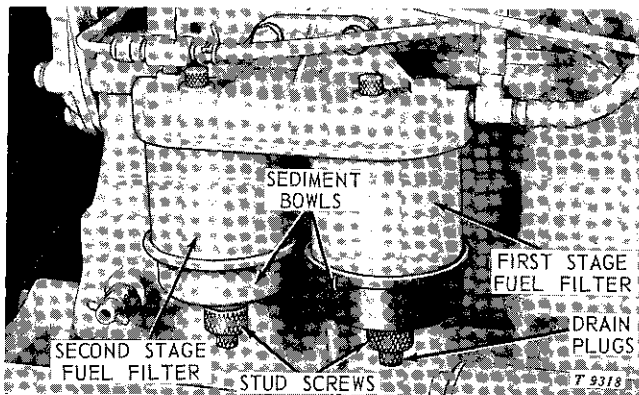

Fig. 40-10-16—Bleeding Diesel Fuel System (42001-Up)
Tractors (42001-up). Check the first-stage filter element (rear) for dirt or water soaking. (Fig. 40-10-16). Back off large stud screw under filter sediment bowl and remove screw and bowl. Remove filter element. Replace element and gaskets if element is dirty or water soaked. Place gaskets on shoulders of element and slip element under filter head. Reinstall screw and bowl under filter element. Be sure gaskets are not crimped, then tighten stud screw until snug. Do not replace second-stage filter element except in the case of major engine overhaul, unless first stage filter is extremely dirty or water-soaked. Bleed fuel system (see next page).
2. Loosen bleed plug on top of first-stage (rear) filter and let fuel flow until it is free of air bubbles (Fig. 40-10-16). Tighten bleed plug.